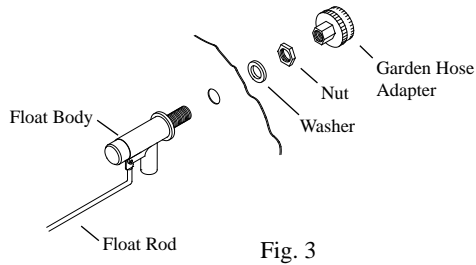

Fig. 3
- **Install float valve.** Refer to figure 3. Install the valve in the provided hole in the corner post (RMMB12, RMMB14) or louvered side (MMB10) using the provided washer and nut. Install the included garden hose adapter to the float as shown if attaching a garden hose to the unit. A 1/4 inch water line may also be used to supply a continuous amount of water to the unit.